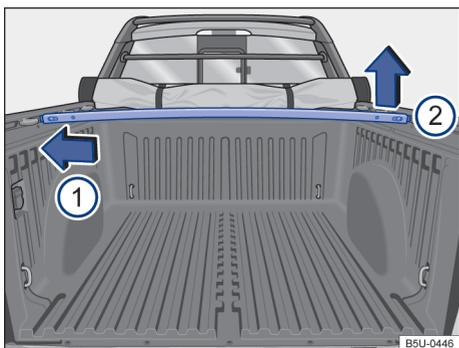

Fig. 52 Bed crossmembers - remove and install.
- To remove, press the cross member on the left side in the direction indicated by the arrow → Fig. 52 **1** and remove the cross member from its seat from the right **2**.